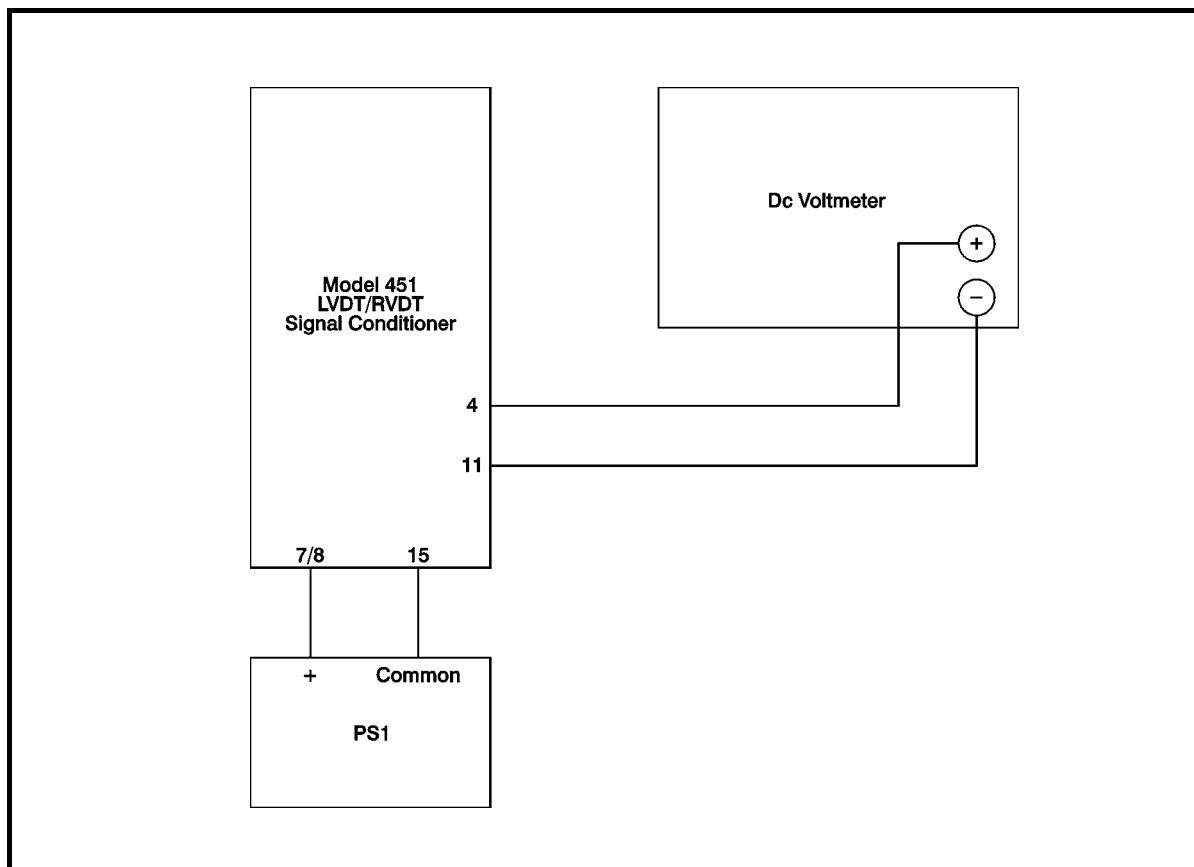

Figure 6-1 Output Alignment
1. Connect the Model 451 and dc voltmeter as is shown in Figure 6-1. Set PS1 to any voltage between 10.5 and 32 V dc and set the dc voltmeter to measure 10 V dc with 1-mV resolution.